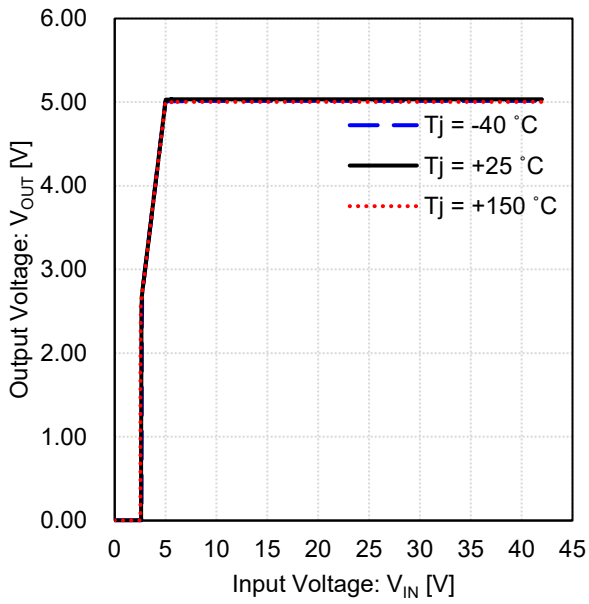

Figure 9. Output Voltage vs Input Voltage (5 V output)
*magnification of Figure 9 at narrow range output voltage (5 V output)
*magnification of Figure 9 at low input voltage (5 V output)